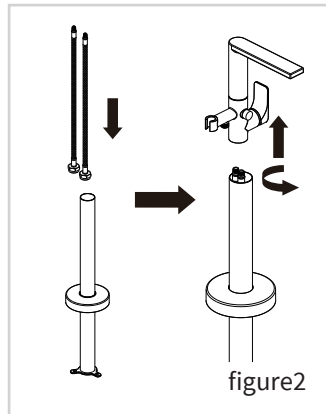

figure2
3. Run the flexible hoses through the standpipe. Connect the flexible hoses to the mixer, please note not to reverse the cold and hot supply. Attach the mixer to the standpipe. (figure2)